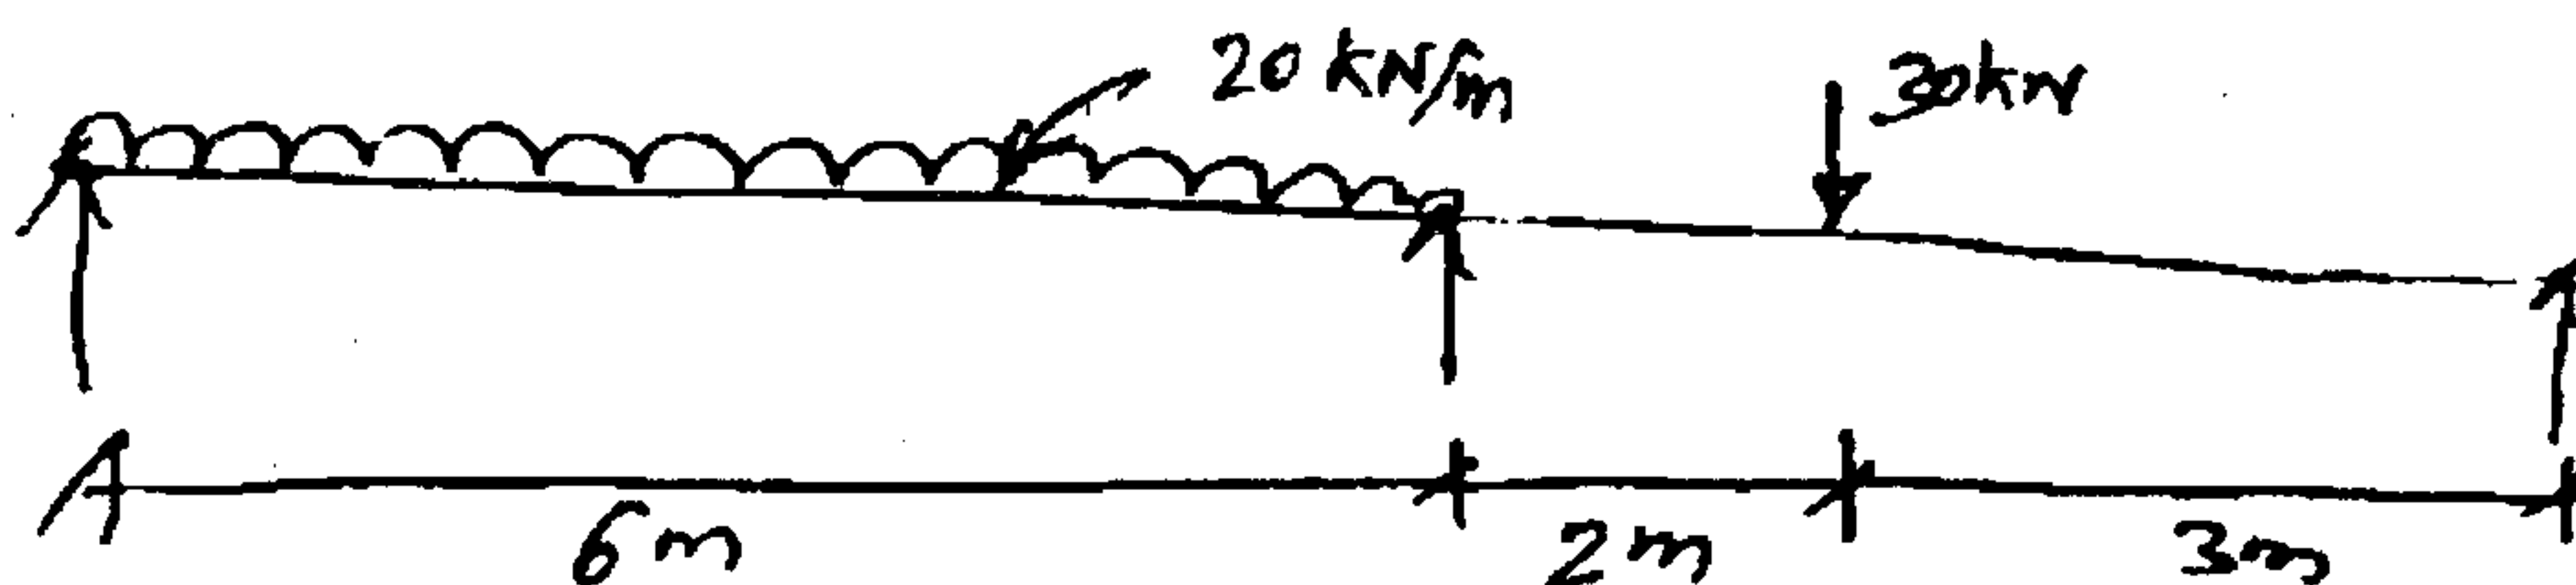

Fig. 15 (a)
15. (a) Analyse the continuous beam shown in Fig. 15 (a) by the method of moment distribution. (16)